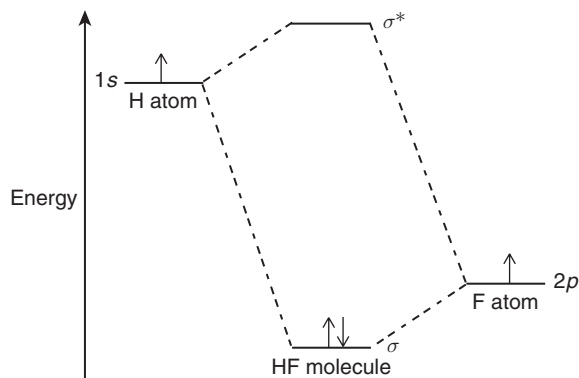

Figure 18 MO diagram of HF.
1. **HF molecule:** The atomic orbital energy levels are: hydrogen  $1s$  ( $-13.61$  eV), fluorine  $2s$  ( $-40.17$  eV) and  $2p$  ( $-18.65$  eV). In this case, there is no  $s$ -orbital interaction, because energy difference  $> 13$  eV. The orbitals of  $1s$  of hydrogen and  $2p_x$  of fluorine can overlap to form a  $\sigma$  orbital due to compatible symmetry; while  $1s$ ,  $2p_y$  and  $2p_z$  of fluorine have no net overlap and are non-bonding. The MO diagram is as shown in Figure 18.